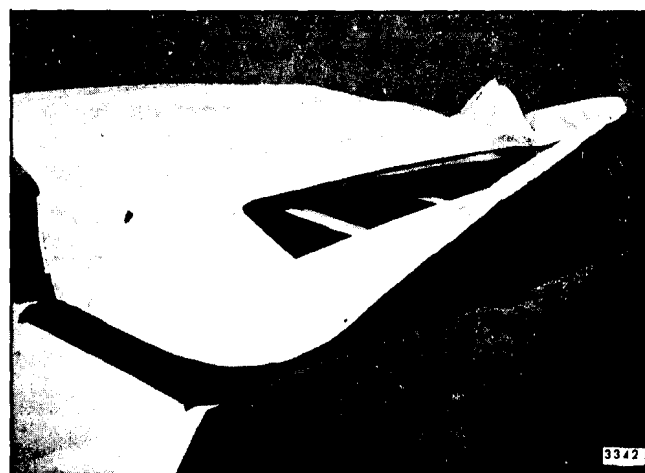

Fig. 12-9-Raising Balance of Trimstick
3. Position rear trimstick into body in reverse of removal operation (See Steps 10 11 of Removal of Folding Top Cover Less Back Curtain) as shown in Fig. 12-9).